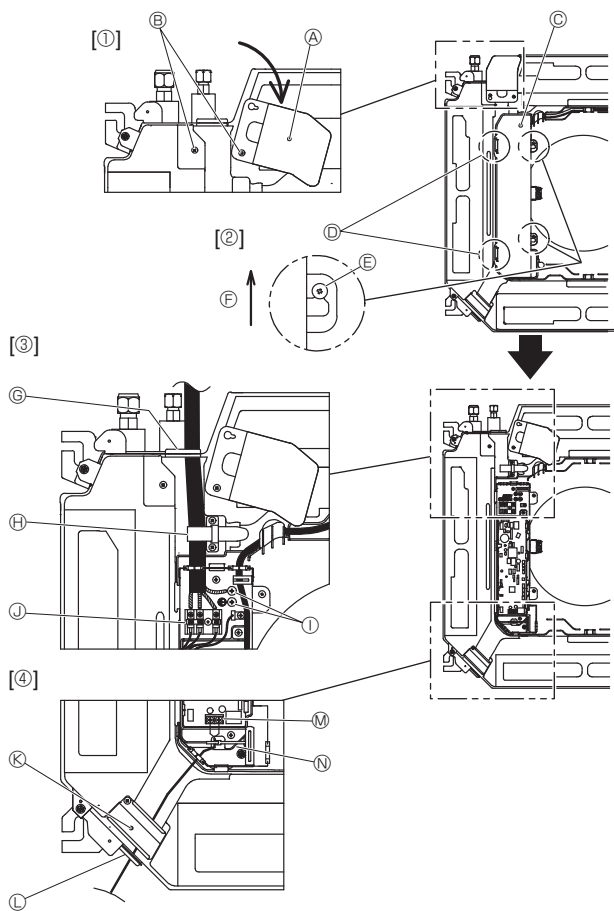
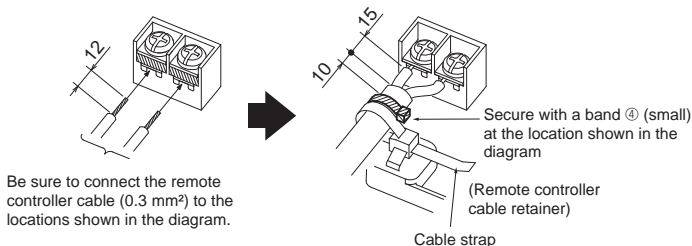

Fig. 6-1
Fig. 6-3
6.1. Indoor unit (Fig. 6-1)
1. Loosen the two screws securing the electrical wiring service panel, and then turn the electrical wiring service panel. [Fig. 6-1 ①]
2. Loosen the two screws securing the electrical box cover, then slide the electrical box cover. [Fig. 6-1 ②]
3. Pass the power cable, indoor/outdoor unit connecting cable and earth cable through the wiring entries given in the diagram. [Fig. 6-1 ③]
If you cannot use round crimped terminals, following the procedure in Fig. 6-3 to 6-6.
4. Pass and wire the remote controller cable through the wiring entries given in the diagram. [Fig. 6-1 ④, Fig. 6-3]